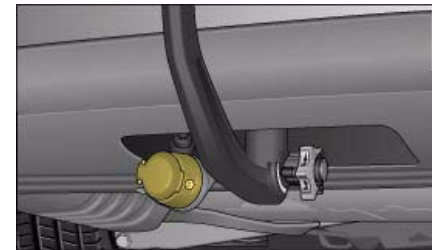

Fig. 202 Area below rear bumper: Electrical socket for trailer
- The cable of the towing bracket can be connected to the socket ⇒ *page 204*, fig. 202.